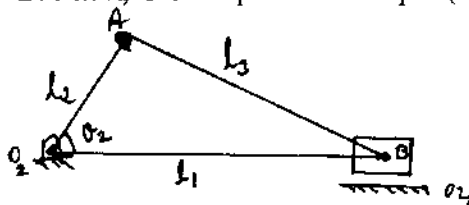

Fig. Q5 (b)
b. For a single slider mechanism, of Fig. Q5 (b) determine the velocity and acceleration of piston, angular acceleration of connecting rod. Take crank length = 50 mm, connecting rod = 200 mm, Crank speed = 300 rpm (constant), Crank angle 30°. (10 Marks)